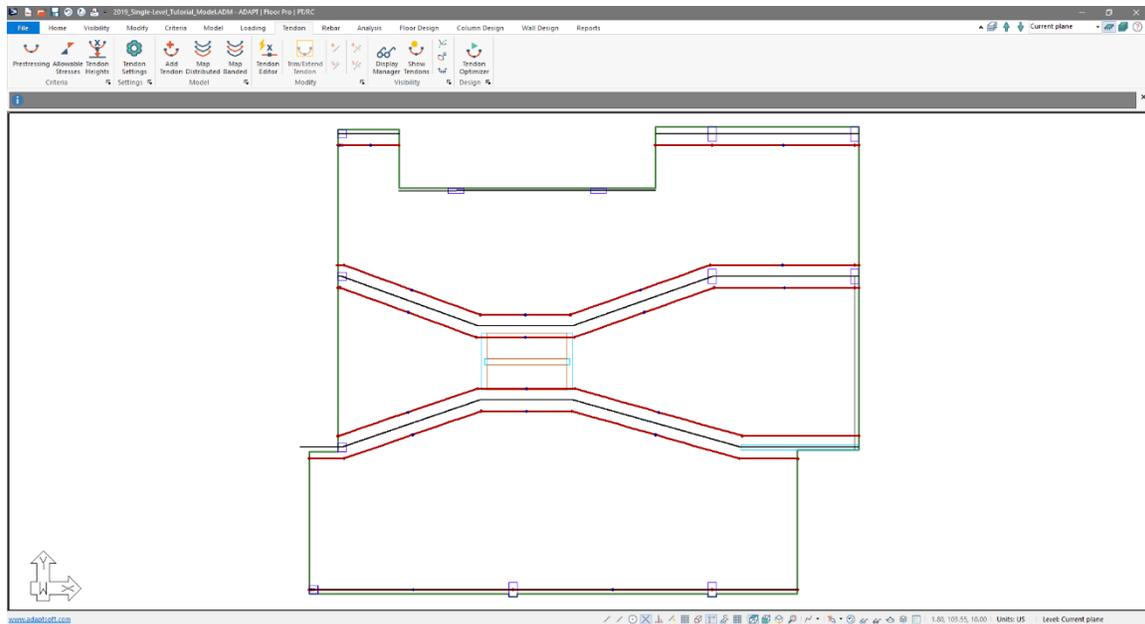

Figure 8-16
- At this point the users screen should be similar to that of **FIGURE 8-16**.